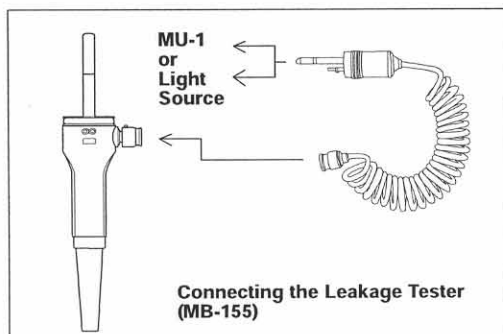

Figure 7.8
2. Insert the Leakage Tester connector into the output socket of the Maintenance Unit (MU-1) or the Light Source and turn the Maintenance Unit or the Light Source ON. Set the Light Source airflow switch to "HIGH" or "3". (See Figure 7.8)
4. Attach the Leakage Tester to the Venting Connector on the Endoscope Connector. (See Figure 7.8)